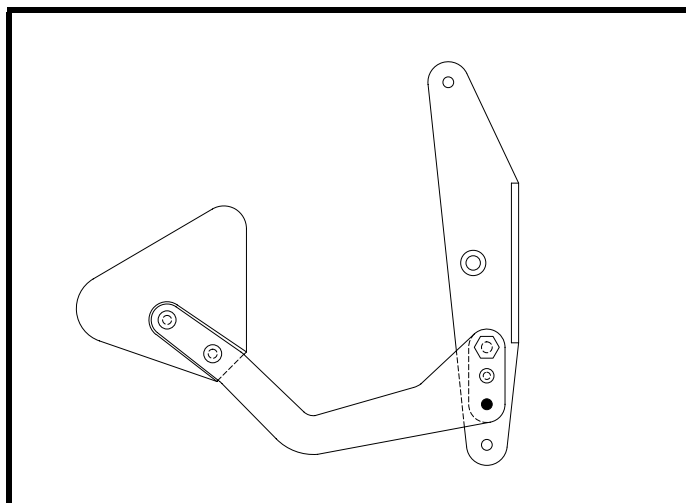

Figure 10
- ❑ As stated above, ream the upper 3/16"Ø bolt hole through P/N 750 and install the bolt. See Figure 10.